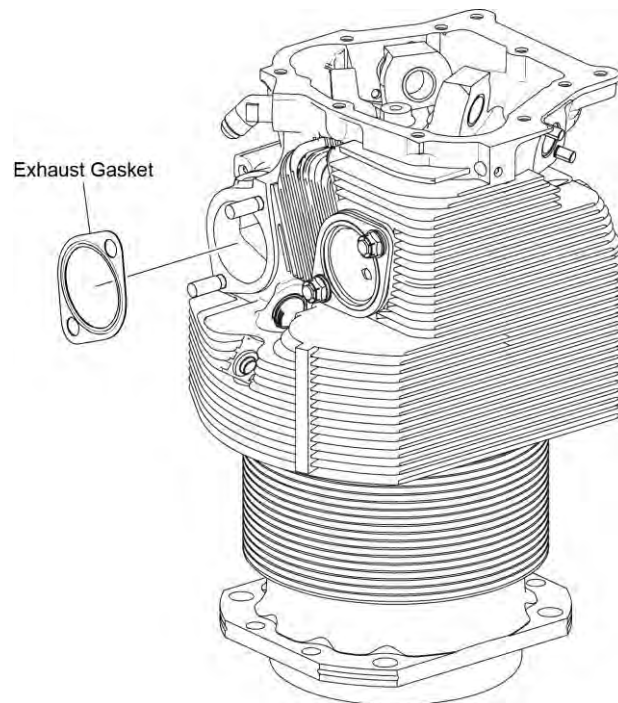

Figure 1
- (9) Apply a slight inward pressure to the pin and slowly turn the magneto drive shaft in the direction of normal rotation until the shoulder of the pin seats against the distributor block. When correctly engaged, the timing pin will be inserted 7/8 in. (22 mm) into the distributor block.
- (10) If not already done, turn the crankshaft in the direction of normal rotation until the correct advance timing mark on the starter ring gear support aligns with the reference point on the engine (Figures 1 or 2).
- (11) Apply Lubriko M-6 grease to the mating flange and install a new gasket on the mating flange of the magneto.
- C. Replace any leaking gaskets (Figure 1).